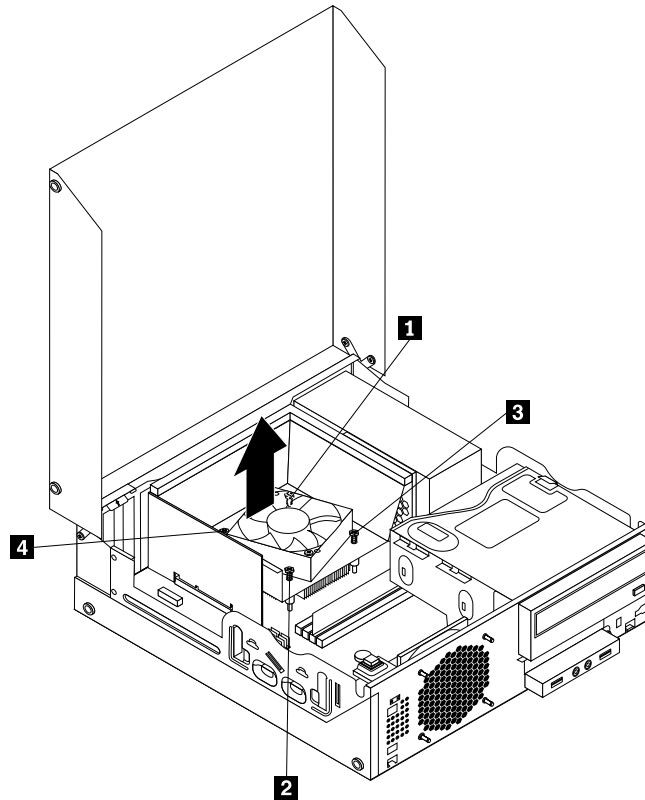

Figure 77. Screws that secure the heat sink and fan assembly
- Follow this sequence to install the four screws to secure the new heat sink and fan assembly, as shown in Figure 77 “Screws that secure the heat sink and fan assembly” on page 140: